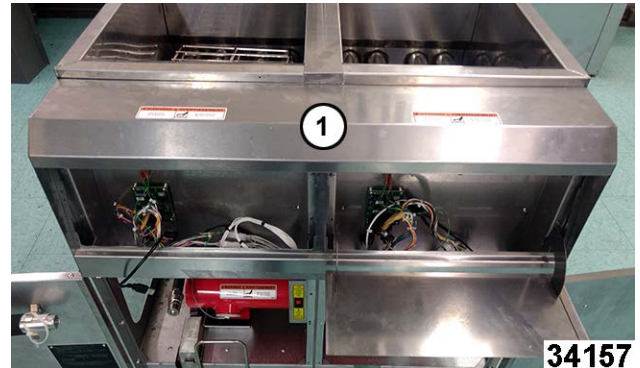
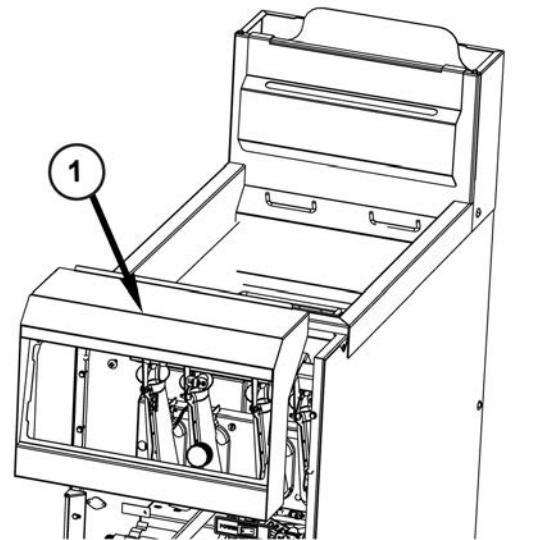

Fig. 17
Fig. 18
6. Lift up and out to remove bullnose (1, Fig. 17 and Fig. 18).